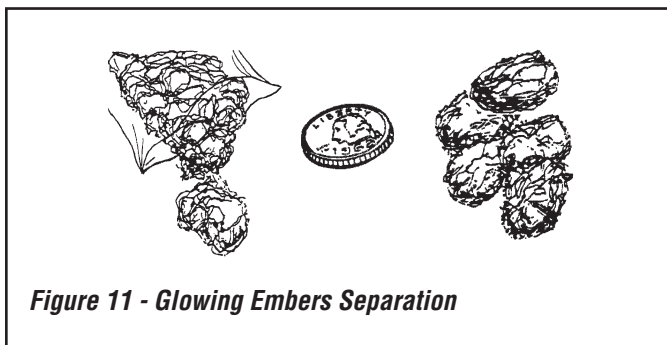

Figure 11 - Glowing Embers Separation
Step 3. Separate the glowing embers from the larger bag into pieces about the size of a quarter, as shown in **Figure 11**. Mix the glowing embers with the bag of platinum embers also provided with the fireplace. Keep the pieces fluffed, not matted. Distribute these pieces over the burner as shown in **Figure 12**. Do not use more glowing embers than necessary. When properly positioned, the glowing embers will cover approximately 75% of the burner for natural gas applications.